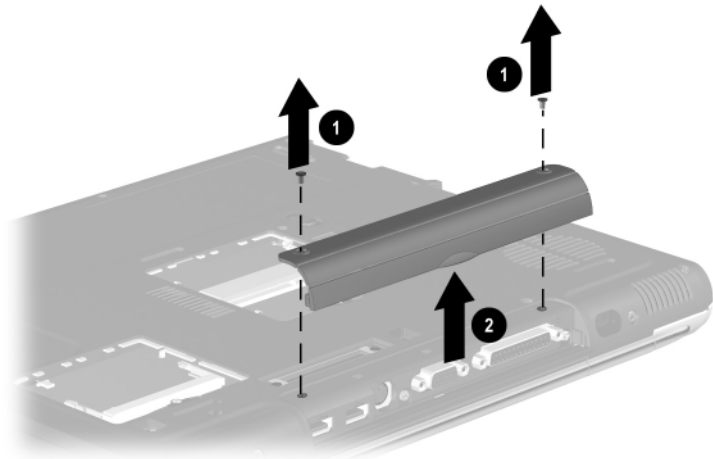

Figure 5-12. Removing the Connector Cover
3. Remove the two PM2.0 × 5.5 screws ❶ that secure the connector cover to the base enclosure (Figure 5-12).
5. Remove the connector cover from the base enclosure ❷.